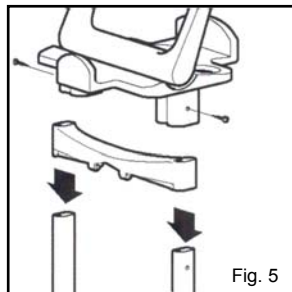

Fig. 5
5. Slide the top brace over the legs and insert the handle assembly onto the top of the legs. Secure the handle assembly to the legs with the two (2) screws provided. (Fig. 5)